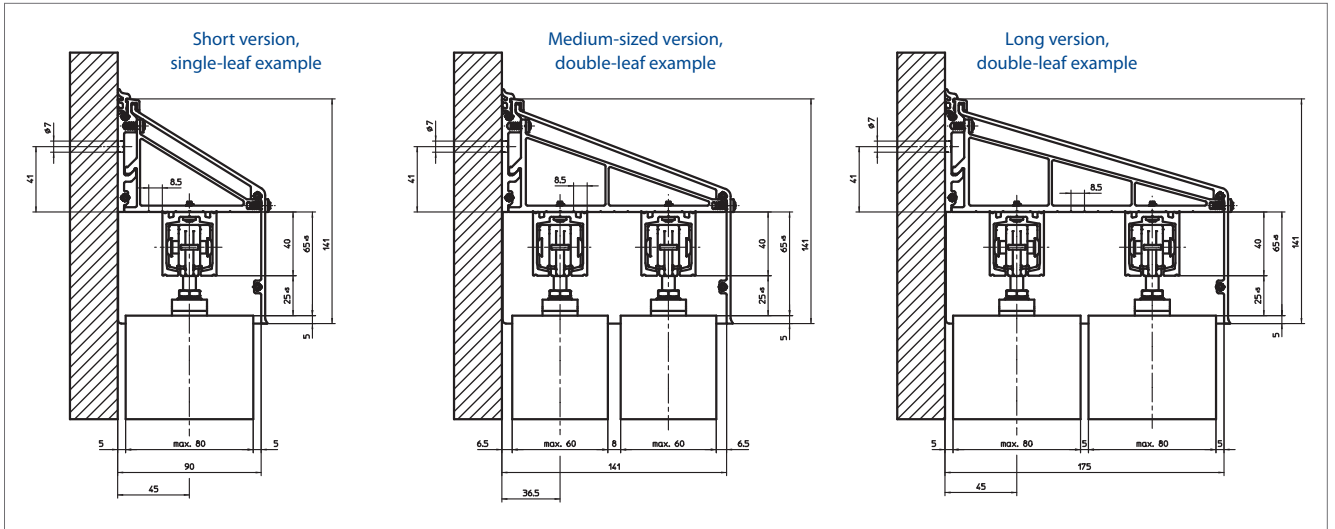

Fig. 25-1
- are illustrated in Fig 25-1.